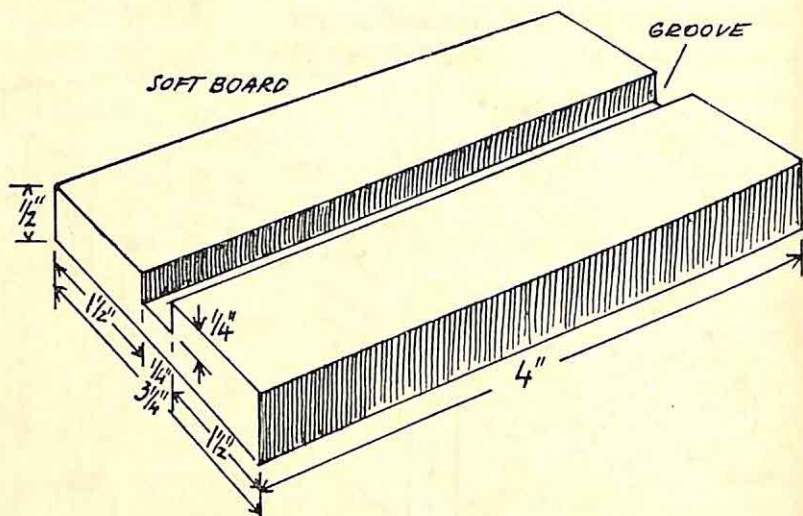

Figure 182
- (a) *From softboard.* Make the first from a piece of softboard 4 inches by  $3\frac{1}{4}$  inches. Cut the groove to take the body of the insect  $\frac{1}{4}$  inch wide and  $\frac{1}{4}$  inch deep, as shown in Figure 182. All flat-head wood screws used should be No. 6,  $\frac{3}{4}$  inch long.